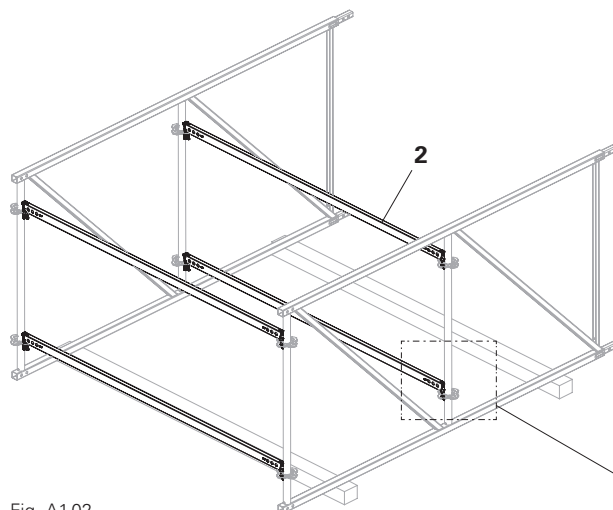

Fig. A1.02
2. Attach Horizontal Ledgers UH-2 (2) to the rosette (1.1) on both sides using the ledger heads and wedges (2.1), and secure with hammer blows. (Fig. A1.02 + A1.02a)